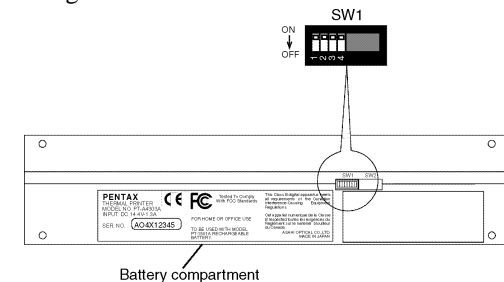

FIGURE 5. Checking the printer's DIP switches
2. Find the set of four DIP switches marked SW1 on the bottom of the printer. See Figure 5.